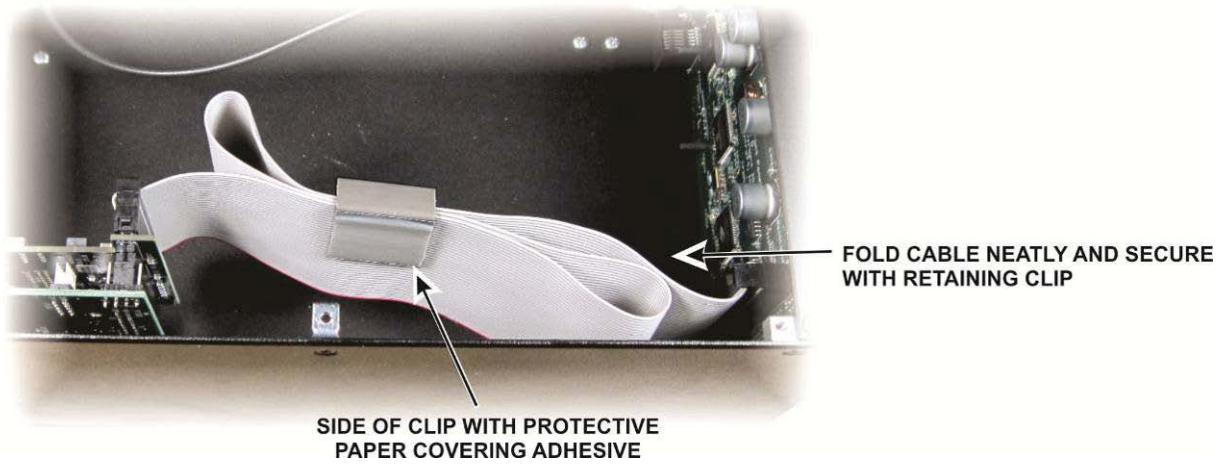

Figure 23. Placing Clip on the Ribbon Cable.
- Gather the ribbon cable into neat folds and place the clip on the cable to hold it in place as shown in Figure 23. The clip has ridges to grip the cable tightly. Use gentle folds. Avoid creasing the cable.